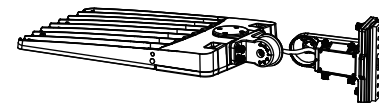

Figure 8
- Step 1: Remove the bracket mounting screws on the fixture, open the side lid of bracket and run the wires through the bracket. (Figure 8)